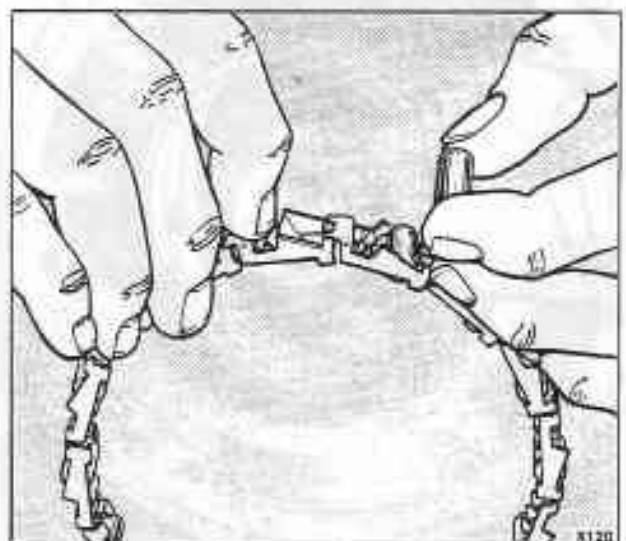

Fig. T20-18 Fitting a roller to the roller clutch cage
22. Fit the rollers that may have come out of the roller clutch cage, by compressing the energizing spring with the forefinger and inserting the roller from the outside (see fig. T20-18).